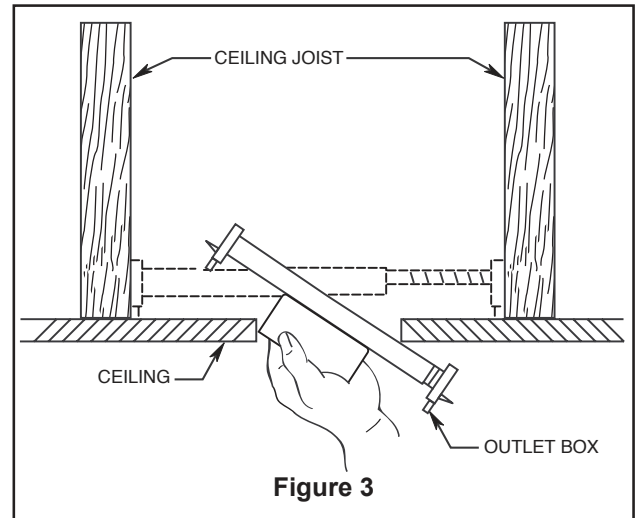

Figure 3
Your new ceiling fan will require a grounded electrical supply line of 120 volts AC, 60 HZ, 15 Amp Circuit. Electrical code requires use of a fan-rated outlet box to support the extra weight and motion associated with a ceiling fan. A fan-rated box will be labeled as such and typically supports up to a 70lb ceiling fan. Fan-Rated Outlet Boxes vary in ratings and design. Ensure the ratings of your ceiling fan outlet box meet the requirements for the ceiling fan being installed. Figure 1, Figure 2 and Figure 3 depicts different structural configurations that may be used for mounting the outlet box.
Deep box with brace (Figure 3)
3. Remove the six preassembled screws of the motor coupler washer from the motor assembly, then retain the screws for reinstallation in Step 7. (Figure 3)